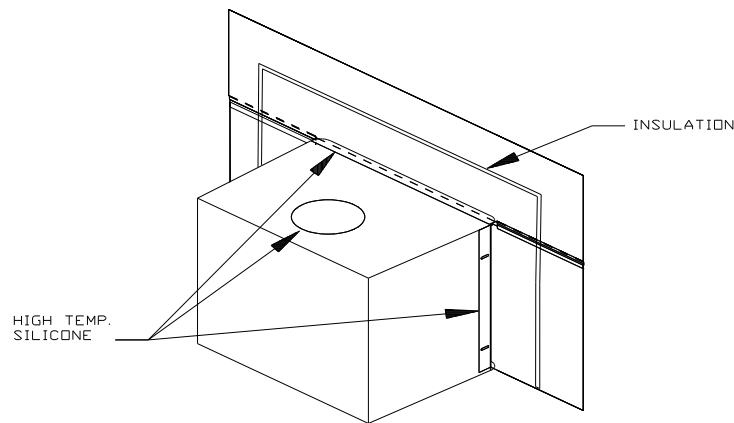

FIGURE 4
11. Using insulation provided, peel and stick to back of panels overlapping fireplace dimensions by 1" on each side and top. (See Figure 4.)
12. Next using high heat silicone or furnace cement run heavy bead of caulking around where panels meet the stove. (See Figure 4.)